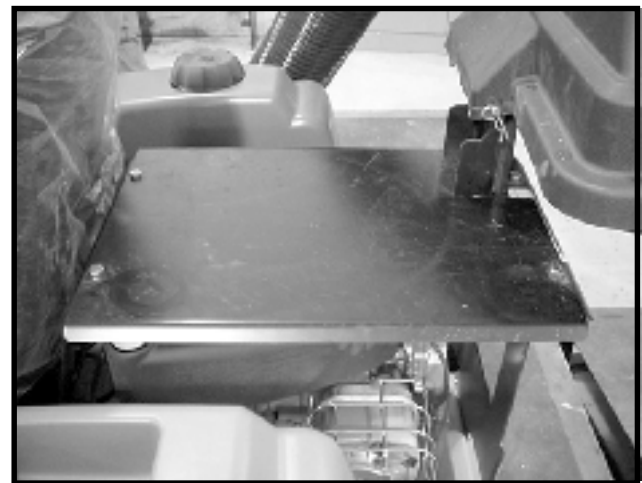

FIGURE 3A
### 3 INSTALLATION OF THE REAR GUARD, PLATE AND HANGER (See Figure 3A and 3B.)
2. Place the hanger over the tab on the plate. See Figure 3A.